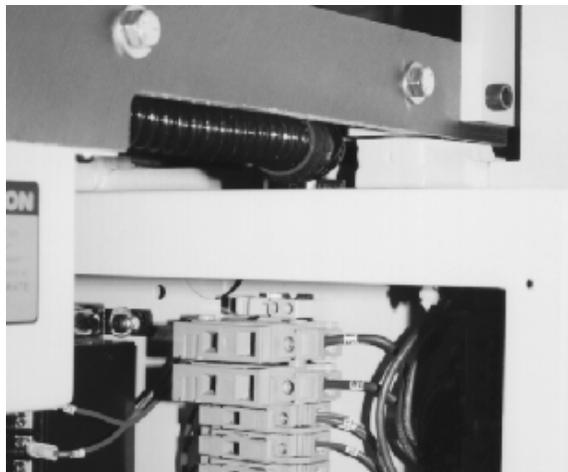

Figure 6
10. Reconnect the main power disconnect switch. Route cable through the hole in the top, right portion of the power panel enclosure. Make sure the elbow is outside the enclosure (Figure 6) and the wires pass through its nut. The nut should be on the inside of the enclosure. Wire to power panel according to instructions found on Main Assembly sheets 10 or 11 (depending upon your model). Insert the conduit elbow in the top of the enclosure and screw on its nut. Tighten the nut. Place a flat screwdriver against one of the nut's prongs and tap the screw driver with a hammer.